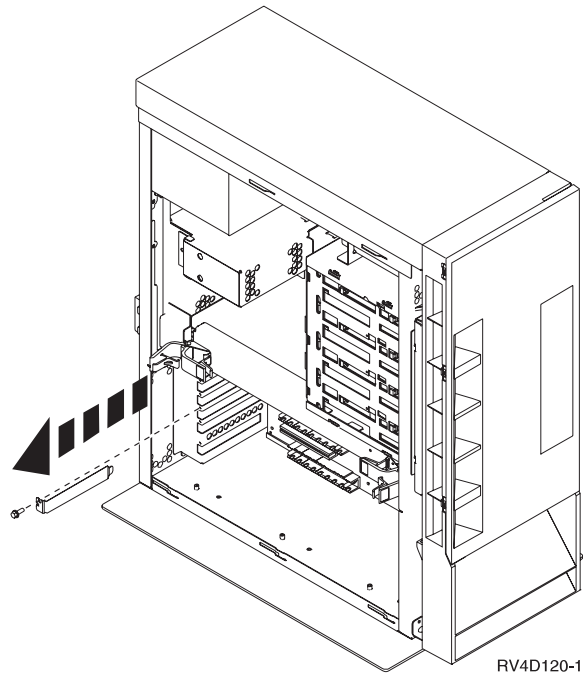

Figure 7. Remove Adapter Card slot Cover
- 1) Remove the screw, (Figure 7 on page 19).